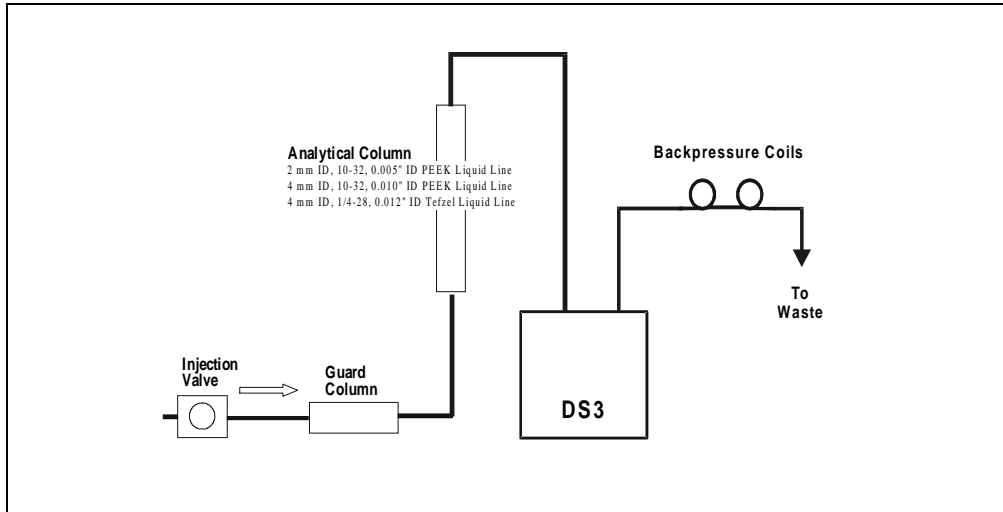

Figure B-4. Nonsuppressed Mode
- Nonsuppressed mode, shown in Figure B-4. Note that conductivity measurements made when no suppressor is in-line may show noticeable baseline drift.